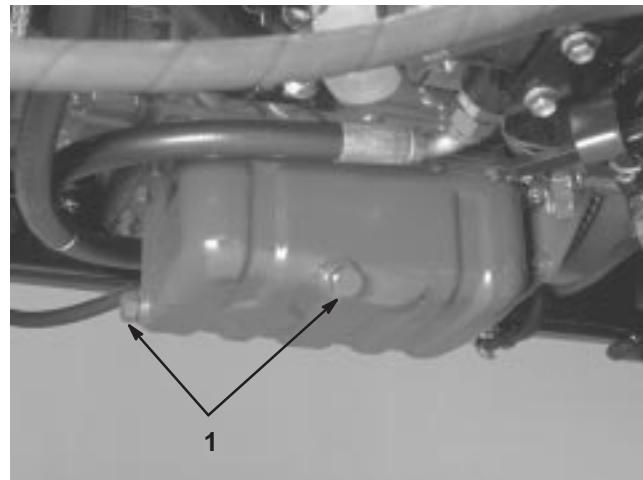

Figure 42
- Remove either drain plug (Fig. 42) and let oil flow into a drain pan. When the oil stops flowing, install the drain plug.